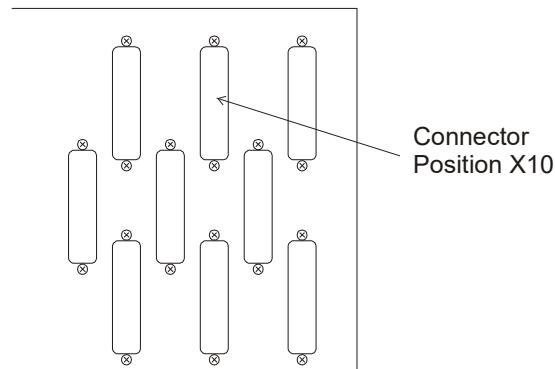

Figure 4: Upper right corner of rear panel of chassis housing, showing location of connector cutouts. X10 is the 2nd connector from the right in the top row.
- 17. On the back of the chassis, locate the cover plate over the 2nd cutout from the right in the top row (see Figure 4). Remove the cover plate. The coupler assembly may interfere with other hardware if it is installed in a different location.